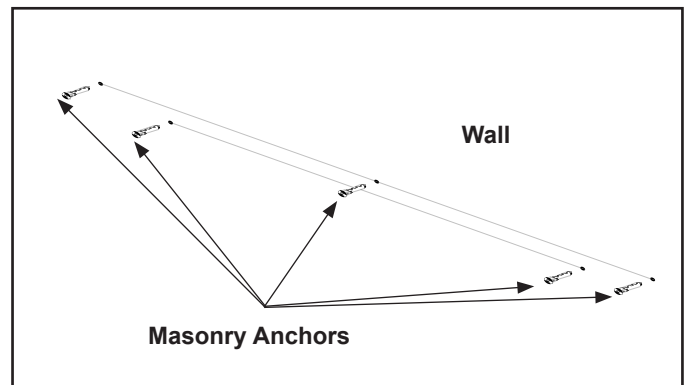

Figure 4.6 Masonry Anchor Placement
**NOTICE:** Minimum four (4) screws and anchors are required for MASONRY wall mounting.
- In the marked locations, drill 5/16 in. diameter x 2 in. deep holes. See Figure 4.6.